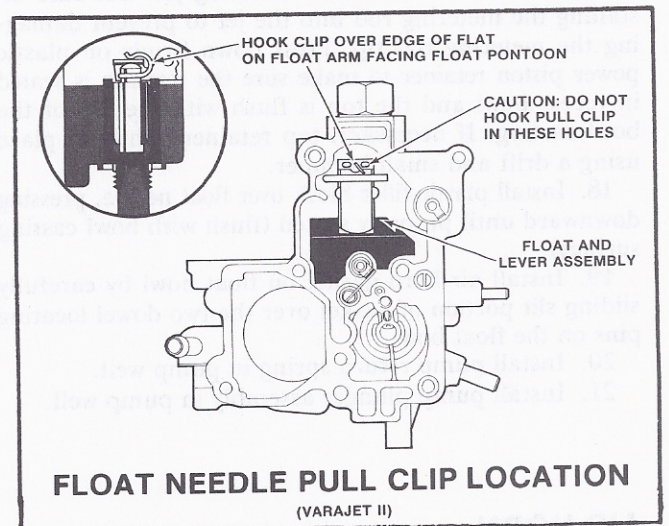

FIGURE 39
12. Install float needle onto float arm by sliding float lever under needle pull clip. Correct installation of the needle pull clip is to hook the clip over the edge of the float on the float arm facing the float pontoon (Figure 39).